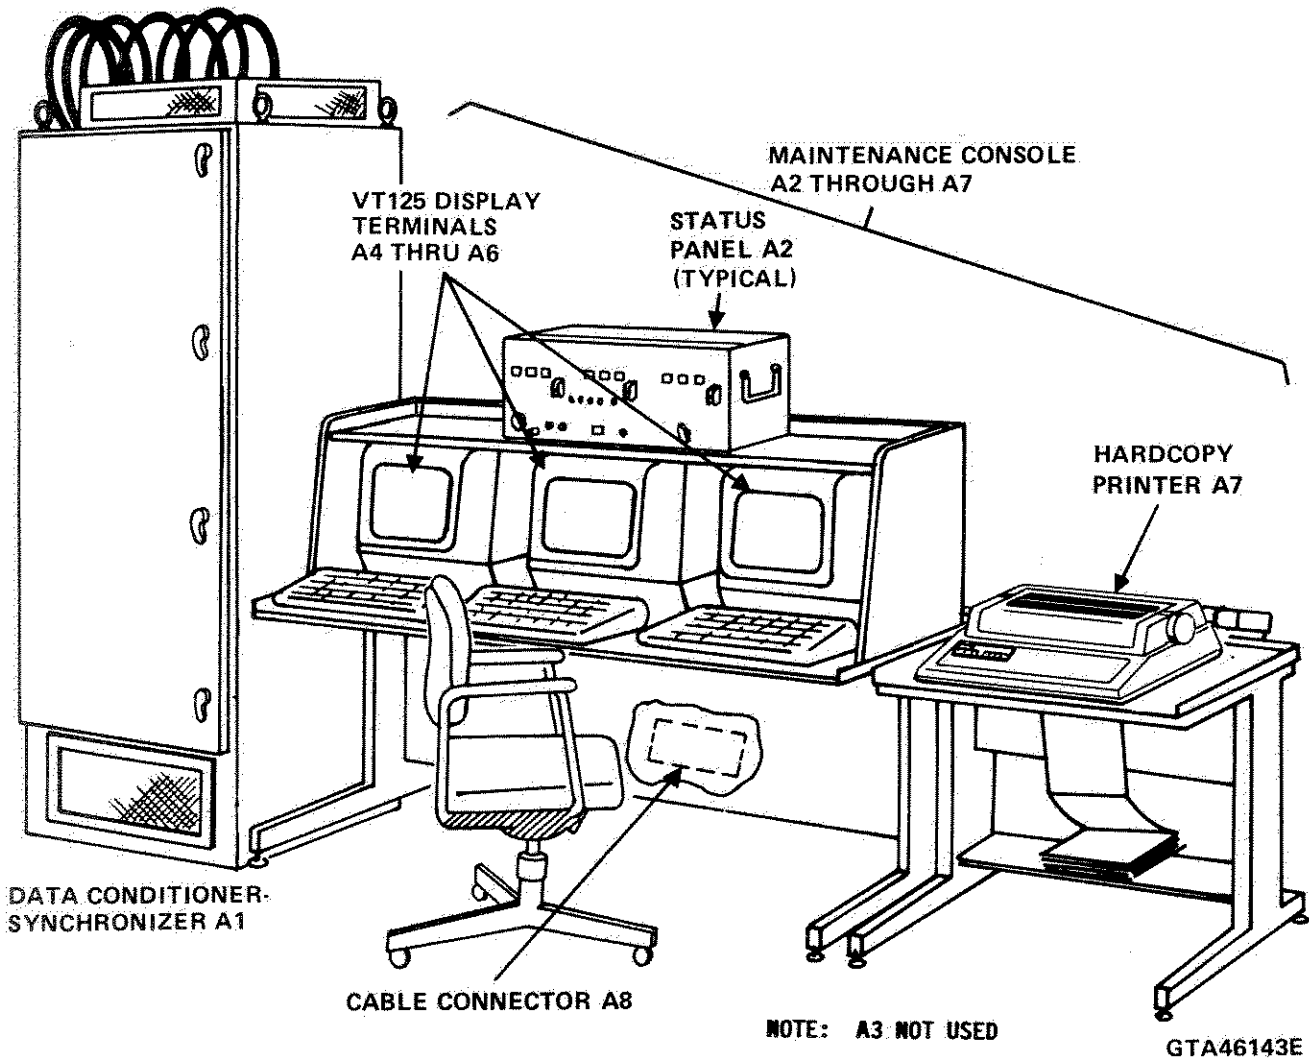

Figure 6-91. Typical Transmit Maintenance Console, Part of Unit 160
3. The EPM test results from all three segments are sent to the RCS&EA function at the operations center (OC) from the manned segment via the narrowband link. Test results from the remote segments are routed to the manned segment via the fiber-optic communication system.
7. The transmit site fault log data base has the capacity of storing 50 active faults (max). When the fault priority is one, the applicable segment STATUS ALERT indicator lights (red) and an audible alarm sounds on the status panel, Unit 160A2 (Figure 6-91). Clearing a priority one fault causes the applicable segment STATUS NORMAL indicator, Unit 160A2, to light (green) providing there is not any other active priority one fault remaining in the fault log data base.